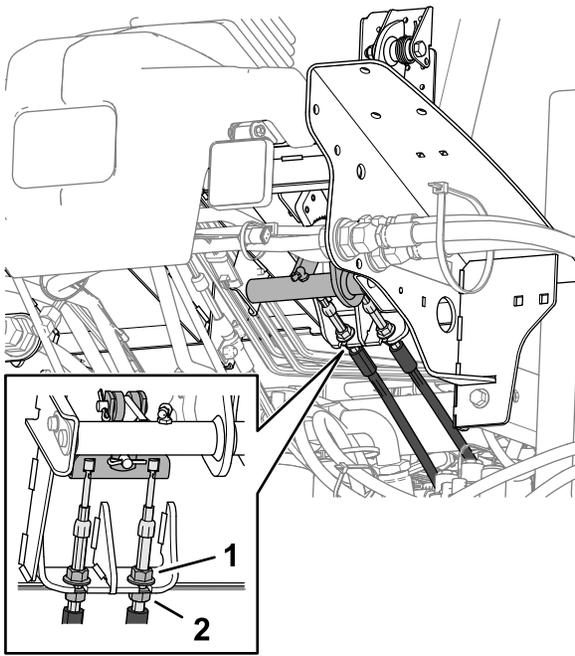

Figure 109
5. To reduce brake pedal-free travel, loosen the front jam nuts on the threaded end of each brake cable (Figure 109).